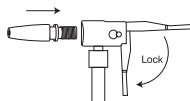

Fig. 4
1. Attach the nozzle to the quick connector of the air hose. Push the lever of the air hose to lock it into place (see Fig. 4).